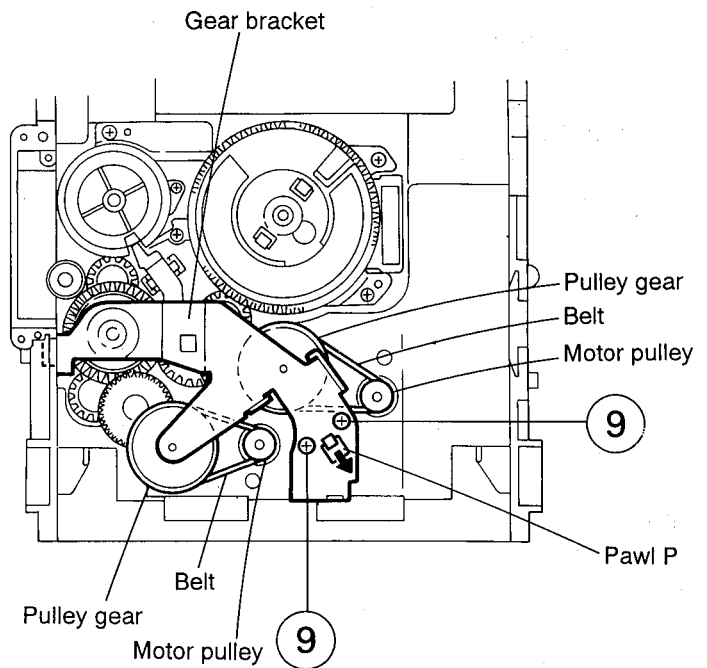

Fig. 2-28
(See Figs. 2-28 to 2-31)
1. Remove the two screws (9) retaining the gear bracket (See Fig. 2-28).
2. While pressing the pawl (P) fixing the gear bracket in the arrow direction, remove the gear bracket (See Fig. 2-28).
3. From the notch (Q section) on the chassis assembly fixing the edge of gear bracket, remove and take out the gear bracket (See Fig. 2-28).